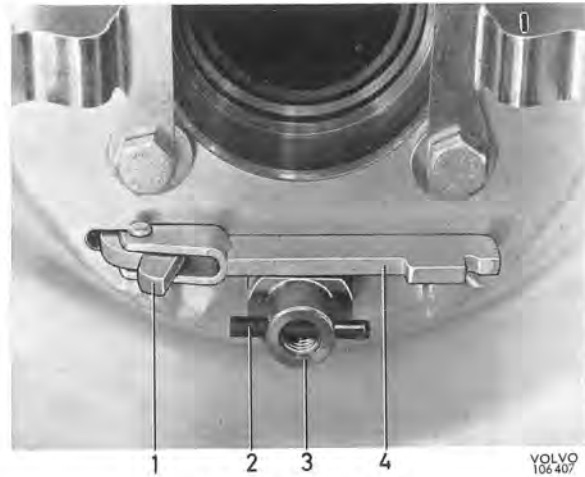
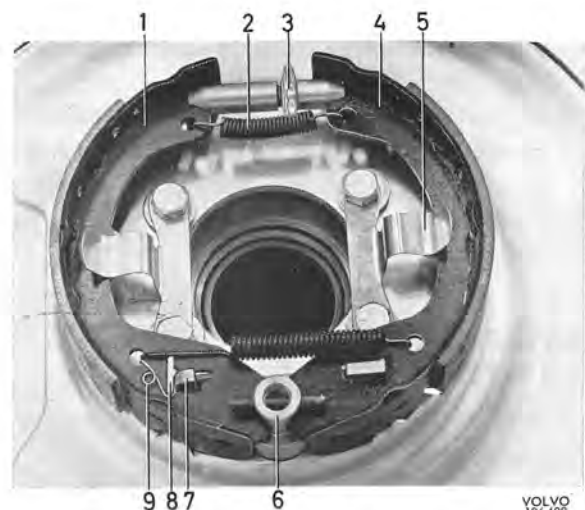

Fig. 5-85. Brake parts
Fig. 5-86. Parking brake
3. Check that the lever and anchor bolt parts are correctly fitted, see Fig. 5-85. Check that the washer (8, Fig. 5-86) and the spring (9) are in position in the primary shoe. Fit the brake shoes, see Fig. 5-84. The shorter sleeve on the adjusting device should be turned forwards on the right-hand side and backwards on the left-hand side, see Fig. 5-86.